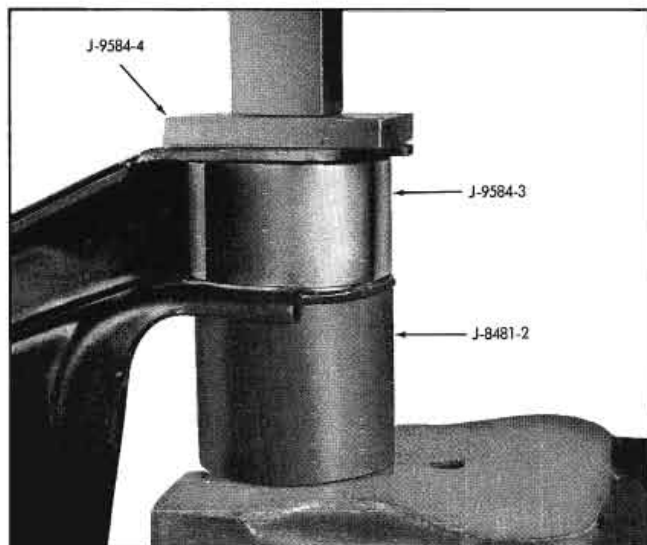

Fig. 3-25 Installing Bushing in Control Arm
3. Install new bushing in control arm using the arrangement of tools as shown in Fig. 3-25.